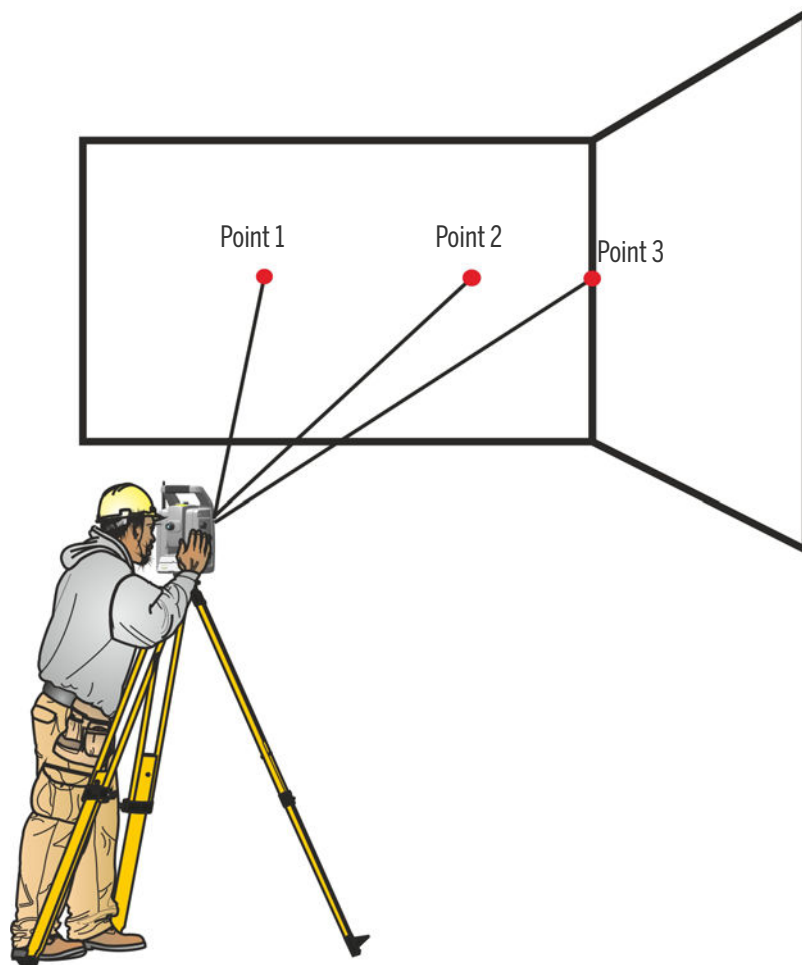

Figure 4.4 Offset measurement
2. Aim the instrument at the corner to store the correct horizontal and vertical angle. See Figure 4.4